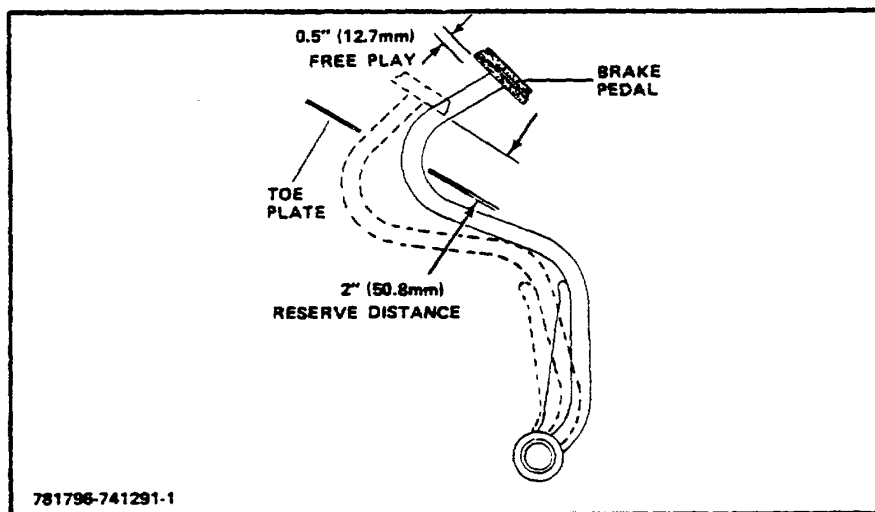

Figure 4-3. Brake Pedal
- m. The lift truck should stop with normal brake pressure. The brake should have 0.5" (12.7 mm) free play as it is depressed. When the pedal is fully depressed, there should be a reserve distance of approximately 2" (50.8 mm) between the bottom of the pedal and the toe plate (Fig. 4-3).